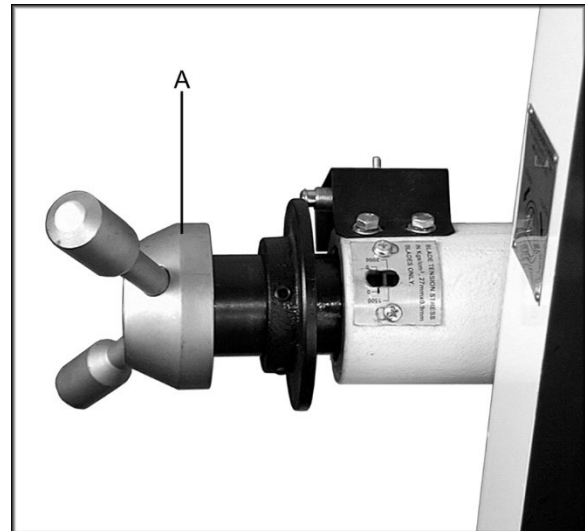

Figure 3
2. Slide the tensioning handle (A, Figure 3) onto the shaft and tighten the hex socket set screw.